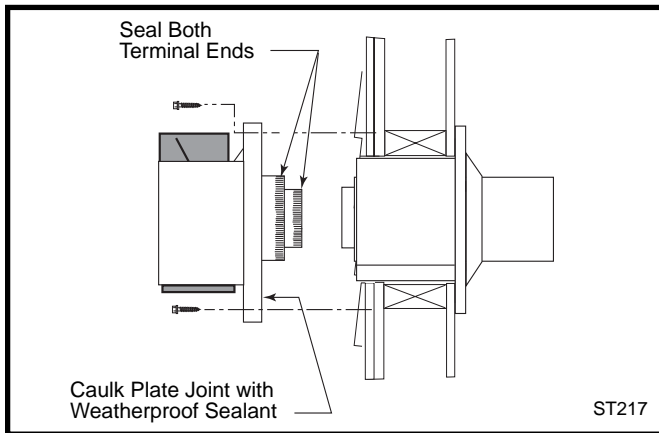

Fig. 33 Install the vent terminal.
10. For both CFM and DuraVent Systems: Install the vent terminal. (Fig. 33) Apply high temperature sealant one inch from the ends of the inner and outer collars. Guide the inner and outer vent termination collars into the adjacent pipes. Double check that the vent pipes overlap the collars by 2". Fasten the termination to the wall with the screws provided, and caulk the joint with weatherproof sealant.